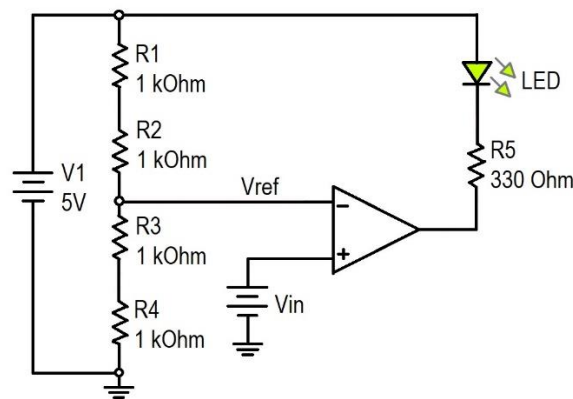

Figure 1. Circuit diagram of a comparator.
Exercise 1. Build up and analyze the working principle of the comparator circuit shown in Figure 1. Regarding the polarity of an op-amp, set $V^+ = 10\text{ V}$ and $V^- = 0\text{ V}$.
- Implement the circuit in Figure 1 on the breadboard.